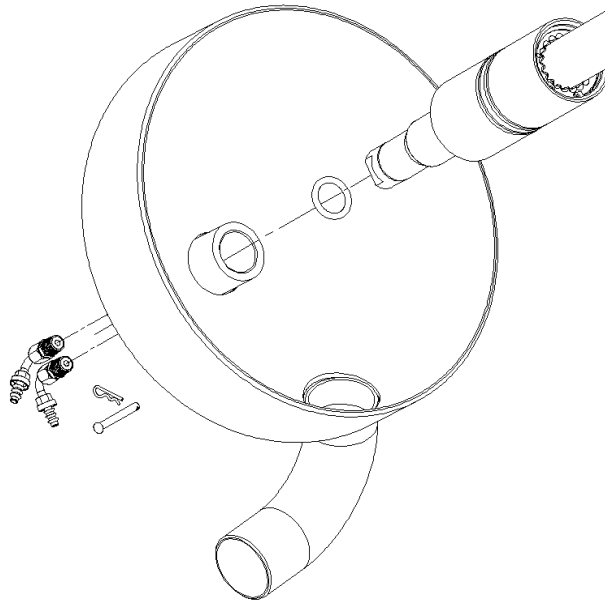

Figure 6
27. Clean and inspect the O-ring at the bottom of the actuator (Figure 6, item 5) and replace if necessary.
Table for Figure 6 – Actuator Base